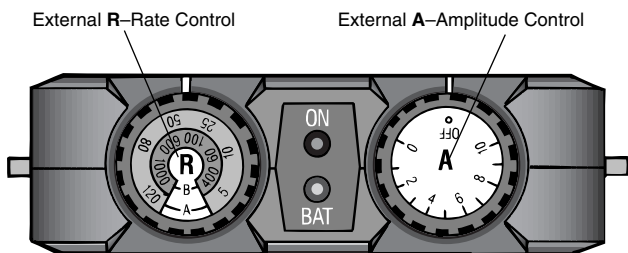

Figure 3. Model 3625 Test Stimulator External Controls.
1. Check that the test stimulator External **A**–Amplitude Control (Figure 3) is turned **Off**.